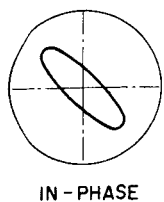

Fig. 11 In-Phase
- 3) If front left and front right are In-Phase, the waveform as shown in Fig. 11 will appear on the oscilloscope screen.